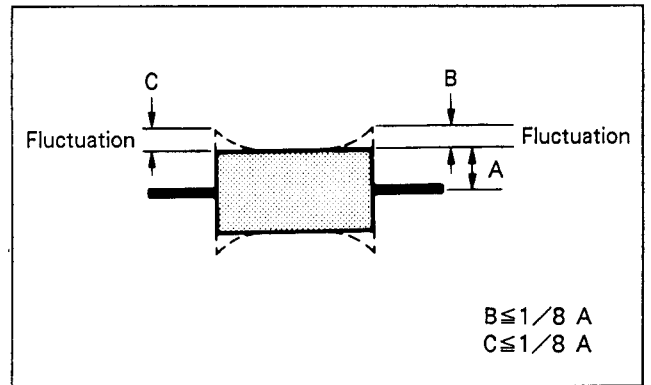

Fig. 7-86.
- 4) Confirm that the fluctuation amount of both RF waveform entrance and exit sides is as shown in Fig. 7-86.